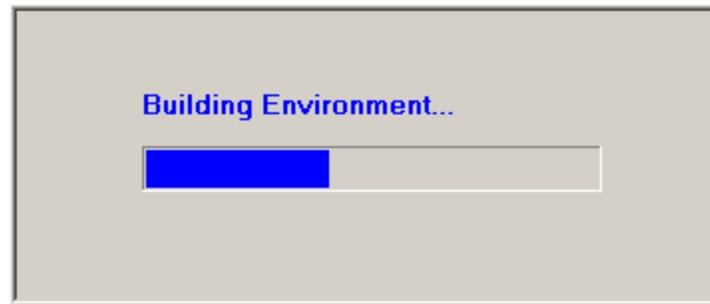

Figure 3-21: MIMO OTA Algorithm Status Bar
2. The MIMO OTA algorithm now starts running. During this time a progress bar displays, as shown in Figure 3-21.